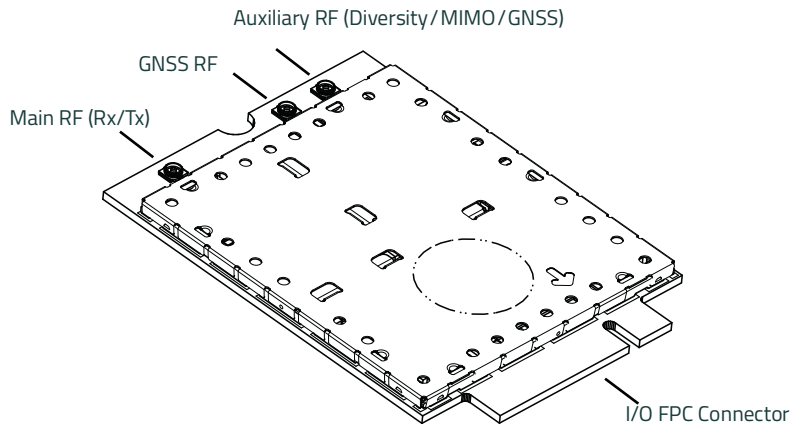

Figure 3-1: Module Connectors
- Connect to system ground using the mounting hole shown in Figure 3-1 on page 33.